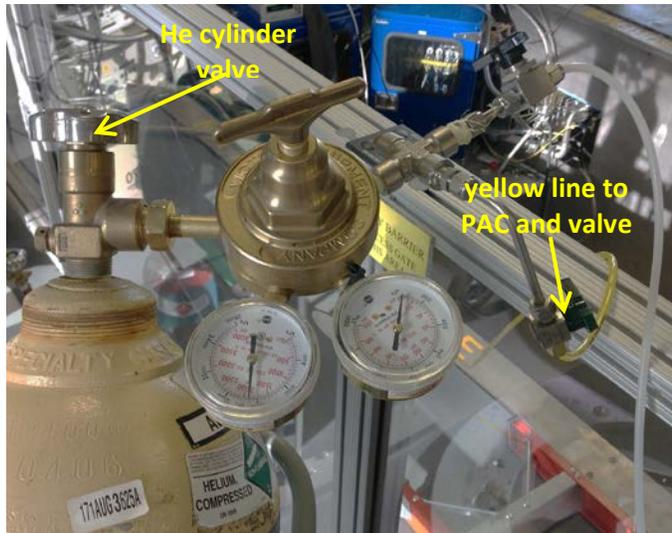

Figure 1. He gas cylinder and yellow line to PAC
- c. Open the He cylinder in the RMA next to the sample pit (Figure 1). Also open the valve on the yellow gas line going to the PAC sample changer.